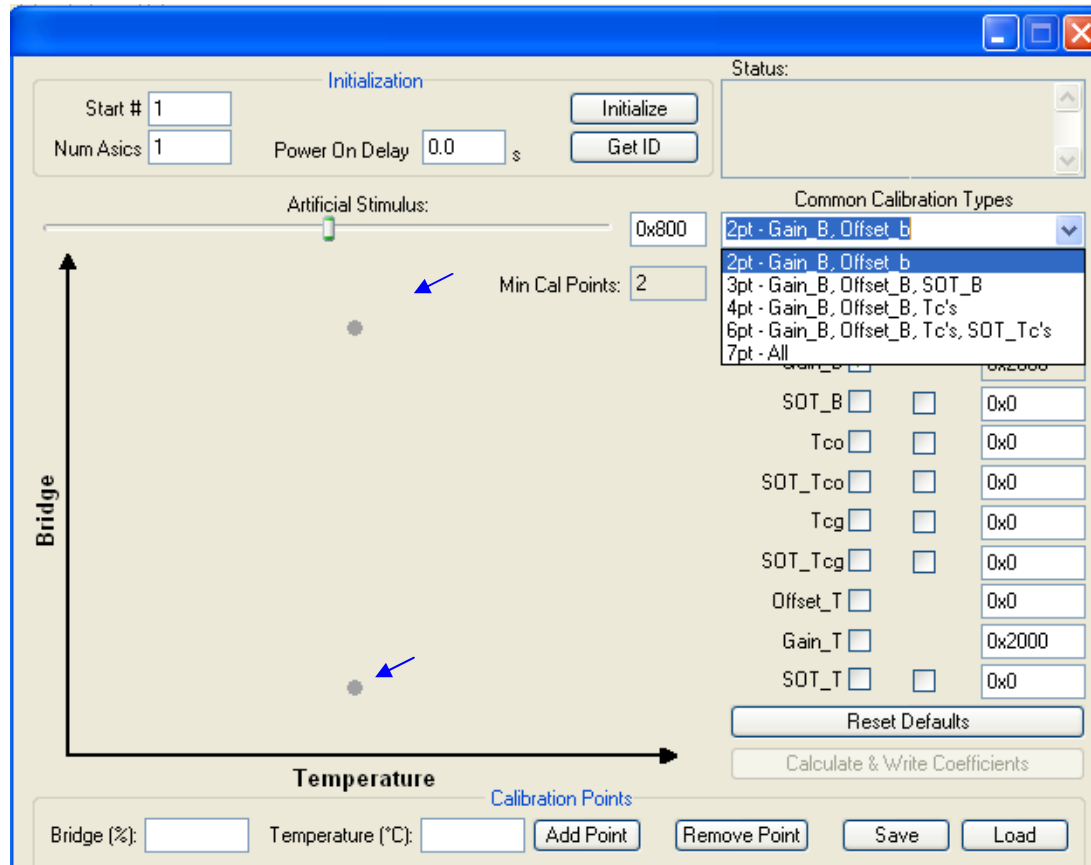
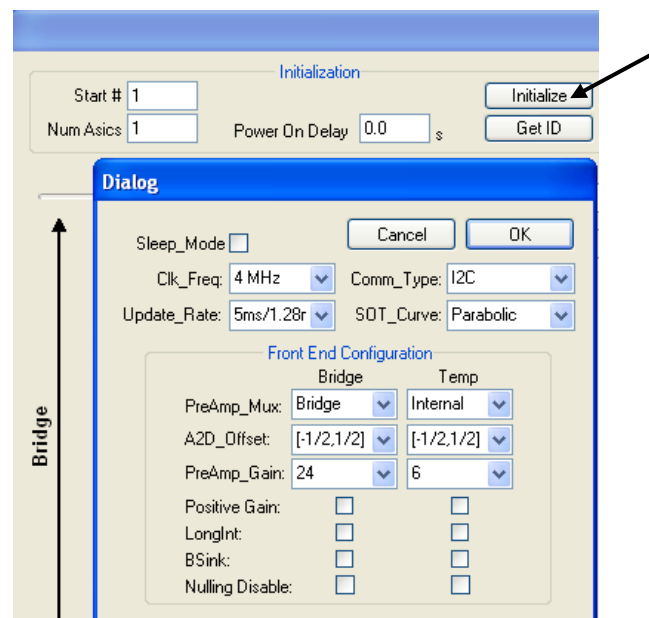

Figure 4.3 – Calibration Window
Figure 5.1 – Initialization Configuration Dialog Box
The software ZMD provides with the SSC Evaluation Kit is intended for demonstration purposes and calibration of single units. ZMD can provide customers with algorithms and assistance in developing their full production calibration software. For the following steps, refer to the calibration window shown in Figure 4.3.
In the top middle of the calibration screen (see Figure 4.3), click on “Initialize.” In the resulting dialog box (see Figure 5.1), verify or correct the configuration for the ZMD31014 RBic_iLite under test and then click OK to initialize the part. The part is assigned a unique ID, which is used as an index in the database. This unique ID is also programmed into the EEPROM Cust_ID0 and Cust_ID1 registers. The software automatically loads and writes unity values for Gain_B and Gain_T to the EEPROM and set the Offset_B to an ADC_Offset related value. All other coefficients are set to zero. The raw data are collected with these settings in NOM.
Next, select the type of calibration required from the “Common Calibration Type” pull-down menu in the top right of the calibration screen (see Figure 4.3). The number of unique points (for this example, pressure and temperature points) at which calibration must be performed depends on the user’s requirements. The minimum is a 2-point calibration, and the maximum is a 7-point calibration.
In the left section of the calibration screen (see Figure 4.3), there is a graph (X-axis = Temperature, Y-axis = Bridge). This graph outlines the recommended spread of points (pressure for this example and temperature) to be used for calibration.
Based on statistical sensor measurements, a customer can decide to reduce the calibration costs by setting user-selected default values for various calibration coefficients instead of using the calibration measurements. In this case, enter the default values to be used for the selected calibration method in the coefficient entry fields at the right of the calibration screen (see Figure 4.3). These fields will not be calculated by the chosen calibration method. The calculation is disabled if there are entries for all defaults.
- Enter the target bridge readout in % (in this case, pressure) in the “Bridge (%)” field under “Actual.” (See Figure 5.1.)
- 6.) Click on "Calibration." The calibration window appears (Figure 4.3).
- 9.) The next step is to start data collection. Normally this would be done with a real bridge attached to the RBiCiLite™ on a remote board in a controlled chamber. Instead, this dry run calibration uses the artificial bridge inputs controlled by the on-board DAC. The DAC is controlled by the “Artificial Stimulus” slider bar or its adjacent entry field at the top of the calibration window (see Figure 4.3).
- 6.) Click on “Calibration.” The calibration window appears (Figure 4.3).